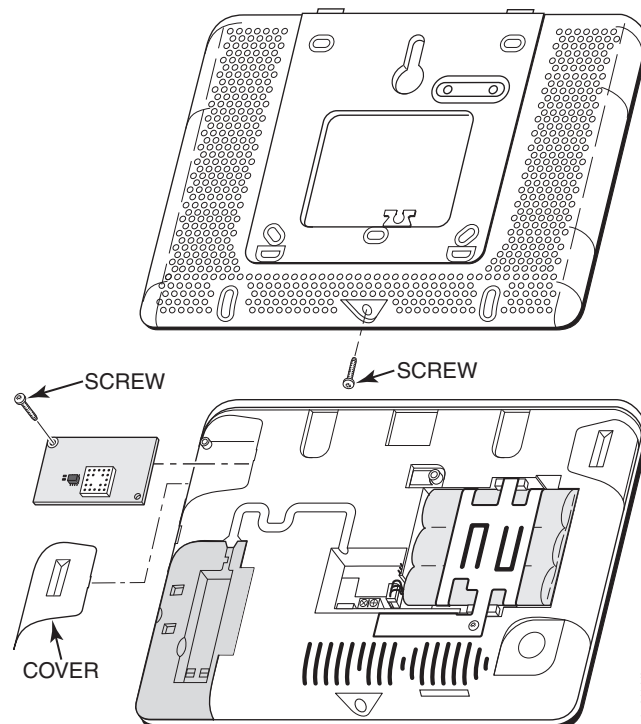

Figure 2. Installing the ADTZWM Module (ADT7AIO Shown)
5. Insert the ADTZWM into the slot on the left side of the control as shown in Figure 2 and ensure the receptacle is securely seated on the control's edge connector.